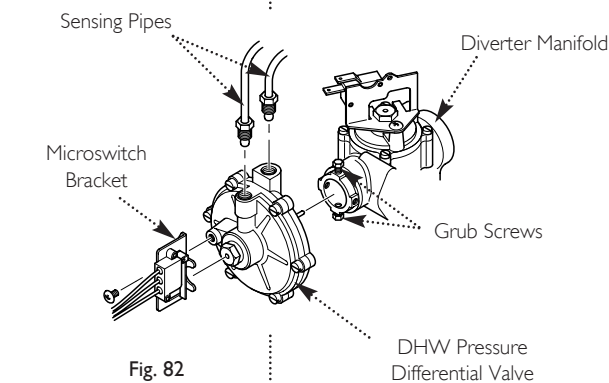

Fig. 82
14.21 Diverter Valve Assembly (Figs. 82 & 83)
2. Undo the screw securing the microswitch bracket to the valve (Fig. 82).